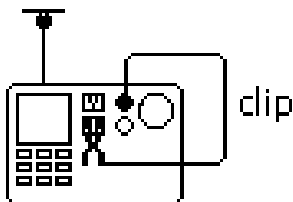

Figure 2. Bond Zero Connections
- Attach the crocodile clip to the test lead and insert the test lead plug into the BOND 25A/200mA socket, see fig. 2.